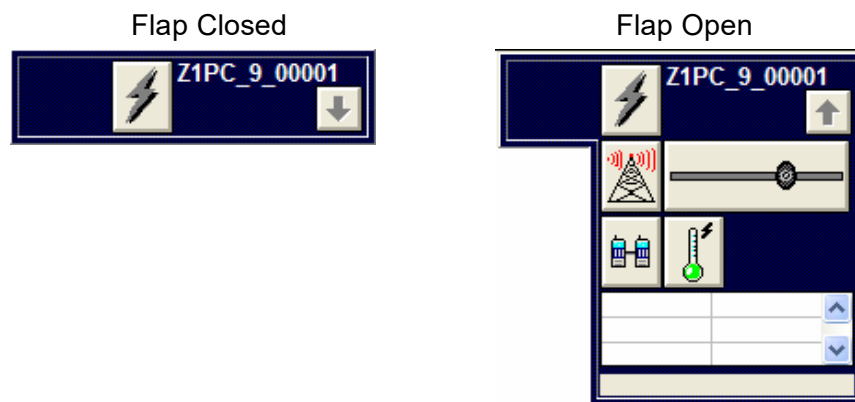

Figure 1-2: Compressed Radio Resource
- **Compressed Resource**—Allows the dispatcher to hide the indicators and controls the radio resource (Figure 1-2). The small arrow button opens and closes the resource to show the controls and indicators. This saves a tremendous amount of space on the screen by allowing the dispatcher to view only the most critical information for any given channel. This type of display is ideal for dispatchers monitoring several different channels where space in the resource folder is at a premium.